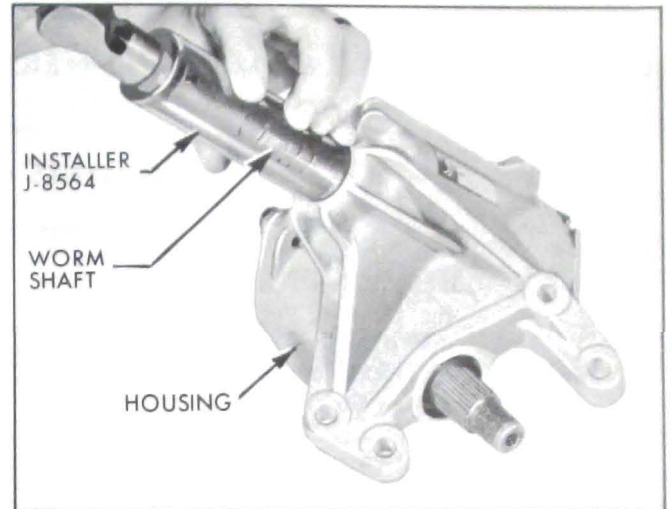

Figure 8-17—Installing Worm Shaft Seal
It is not necessary to disassemble gear to replace worm shaft seal. Remove worm seal with awl being careful not to damage housing or shaft and install a new seal with Installer J-8564. See Figure 8-17.
9. Install new worm shaft seal using Installer J-8564. See Figure 8-17. Drive seal flush with surface of housing.